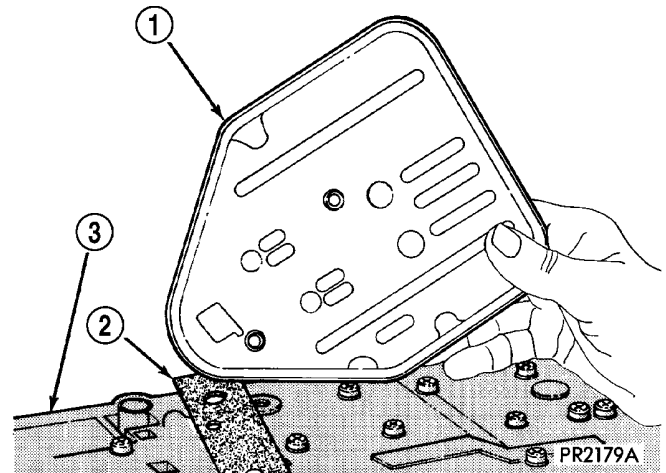

Fig. 79 Oil Filter and Gasket
(40) Install oil filter and gasket into position (Fig. 79).